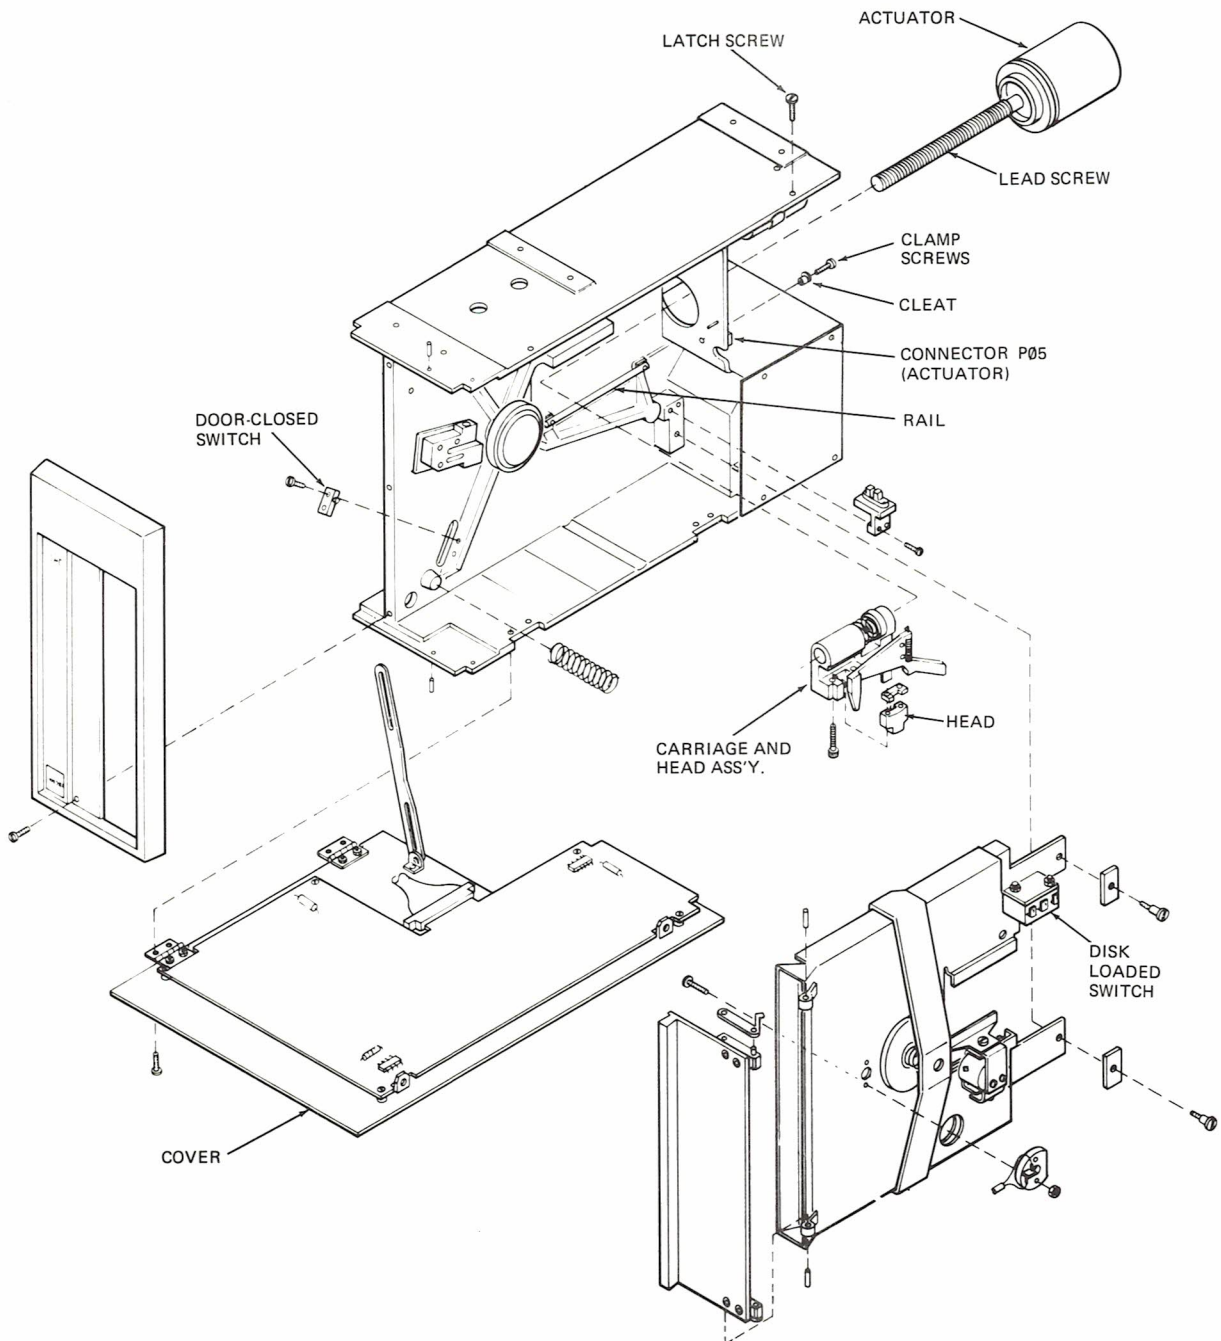

FIGURE 3-15 CARRIAGE AND POSITIONER ASSEMBLIES
3-30 DOOR CLOSED SWITCH (Refer to Figure 3-15).
3-33 DISK LOADED SWITCH (Refer to Figure 3-15).
- (1) Open hinged cover by releasing latch screws.
- (2) Disconnect actuator leads at connector P05 (Refer to logic diagram D210-1264 in Section IV and Figure 3-15).